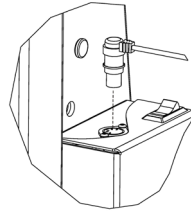

Figure 4-31
15. Plug hand controller into lift. *See Figure 4-31.*